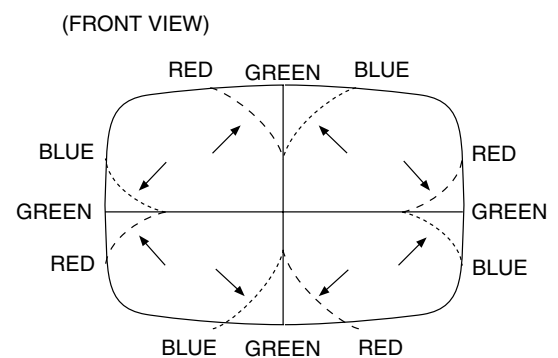

Fig. 5
1. Move the deflection yoke up and down and overlap the lines in the periphery. (Fig. 5)